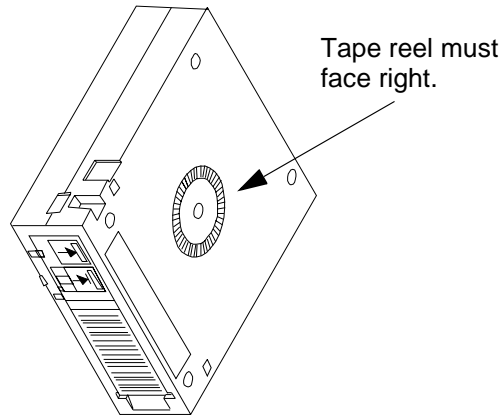

Figure 24. Tape Cartridge
2. Load the magazine by inserting a tape cartridge through the front door with the bar code facing out and the tape reel facing to the right. See **Figure 24**.